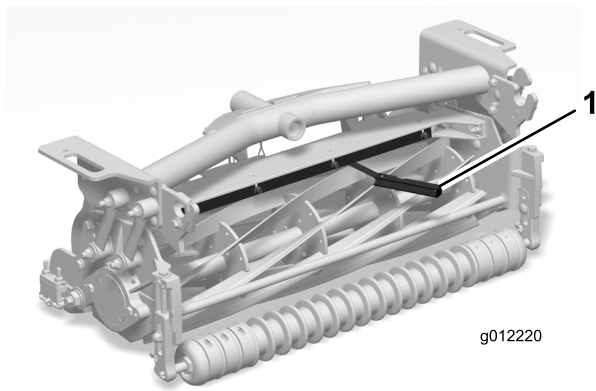

Figure 8
4. Insert a 1.5 mm (0.060 inch) feeler gauge between the top of the reel and the bottom of the cut-off bar to check clearance (Figure 8).